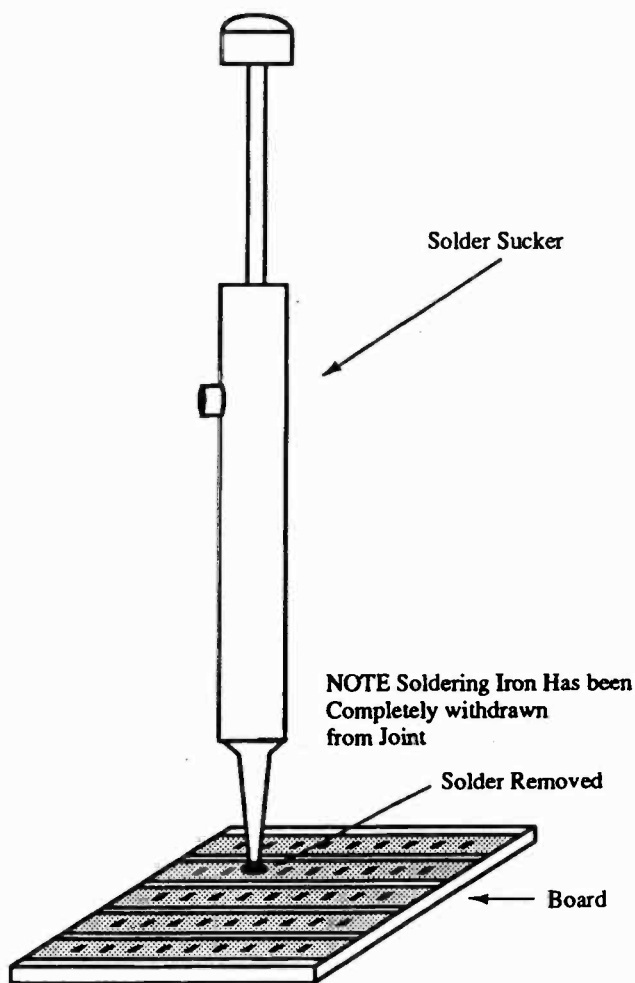

Fig. 9.3 Position of solder sucker on completion of solder removal
- (vi) As the solder melts, quickly remove the soldering iron, bring the solder sucker upright and press the button on the solder sucker. If you have been quick enough then the solder will have been removed into the barrel of the solder sucker (Figure 9.3). If not, then it will have re-hardened on the work.